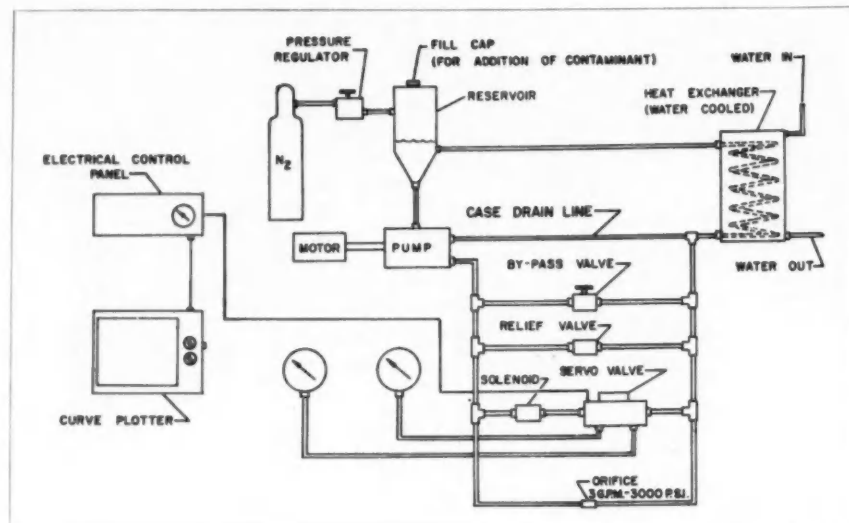

Fig. 3—Hydraulic system for servo-valve contamination tests.
2. *Test Procedure*—The electro-hydraulic servo valve was placed in the hydraulic system shown in Fig. 3. The operation of the valve was observed by means of hysteresis curves taken in the null region as the contamination concentration or level was in-